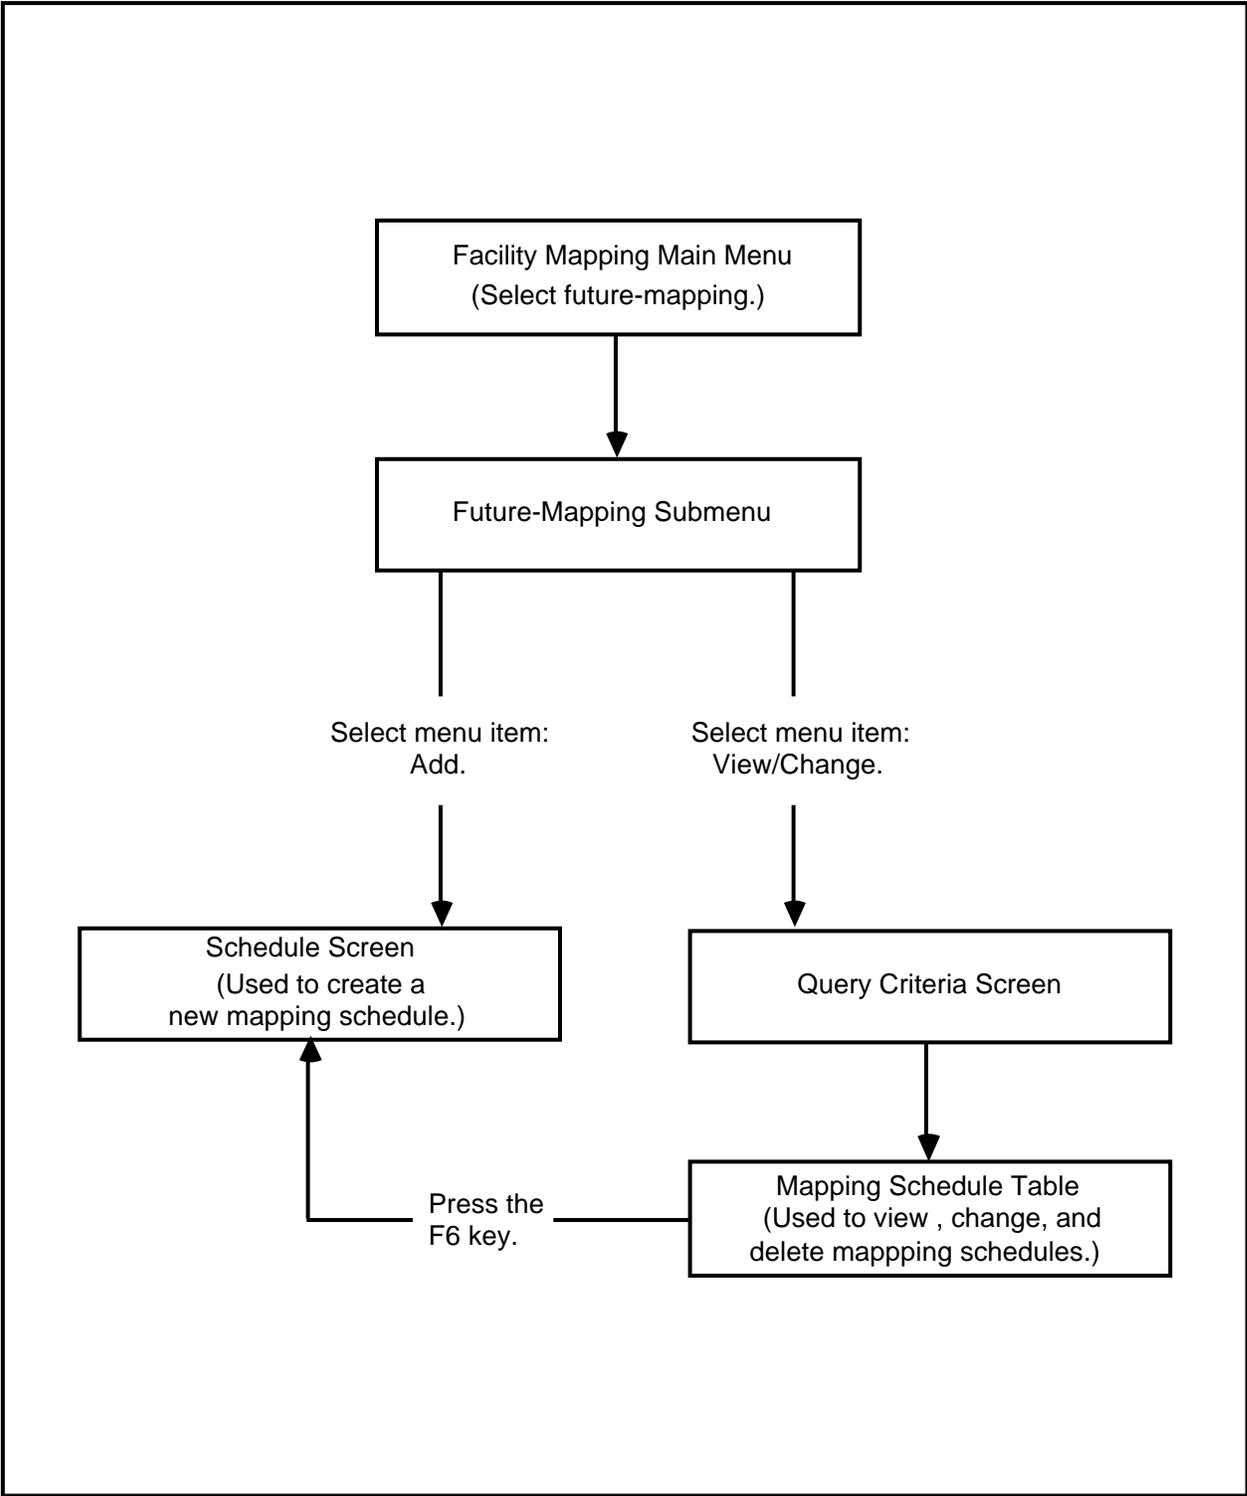

Fig. 7-8
7.20 Field Information. The Future-Mapping Query Criteria screen (see Fig. 7-7) is used to access the Mapping Schedule table for the purpose of viewing the mapping schedules, changing a mapping schedule, and deleting a mapping schedule (see Fig. 7-8). The following list describes the information required as data for the fields of the query criteria screen.